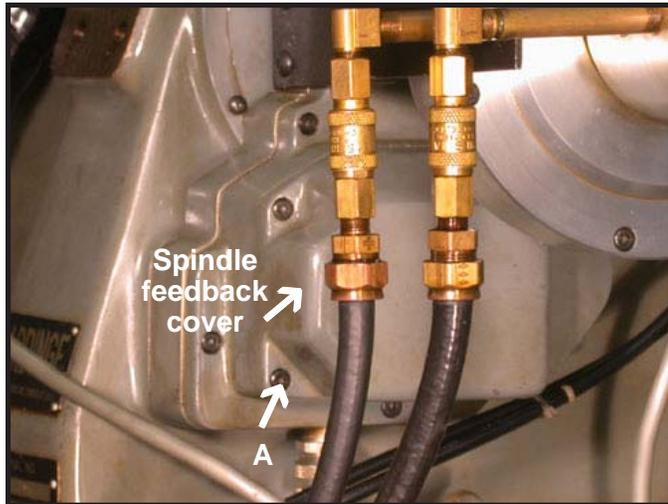

Figure 3.5.1
Remove the spindle feedback cover by removing (4) S.H.C. screws (Figure 3.5.1 - A).